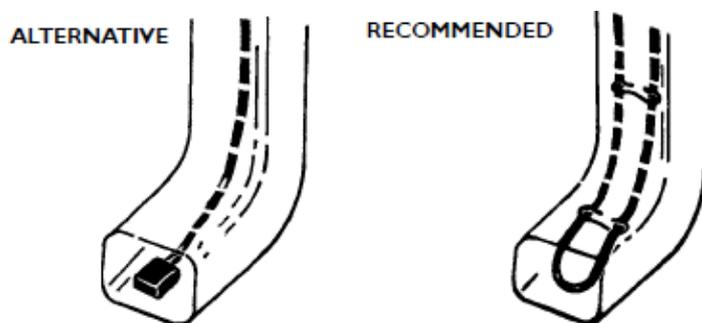

Figure 22. Cable in “end of run” downspouts.
**Consider cable shortage or excess.** Consider how you will handle any excess or slight shortage of cable. For excess cable, triangles can be made larger (up to 20 feet in height) or cable loops in valleys can be extended. For slight shortages, triangles can be made smaller in areas less sensitive to ice dams. Alternatively, if a downspout is present at the end of the roofline being treated, cable may be routed in a single run down, or as recommended run down and back up. In either scenario the cable must terminate at the end of the downspout. See Figure 22.
Pull cable into downspouts using weighted string. Be sure the run of cable is flush with the end of the downspout and that no cable is extended out the end of the downspout (see Figure 22). Remember: to avoid overheating the cable and increasing the risk of fire or electric shock, no part of the downspout may pass through a building.
If you have a shortage of cable (the end of the cable does not reach to the bottom of the downspout), you may reduce the height of the triangles on areas of the roof that are less susceptible to ice dams. It is permissible in this scenario to only have a single run of cable in the end downspout, termination at the end as shown in Figure 22.